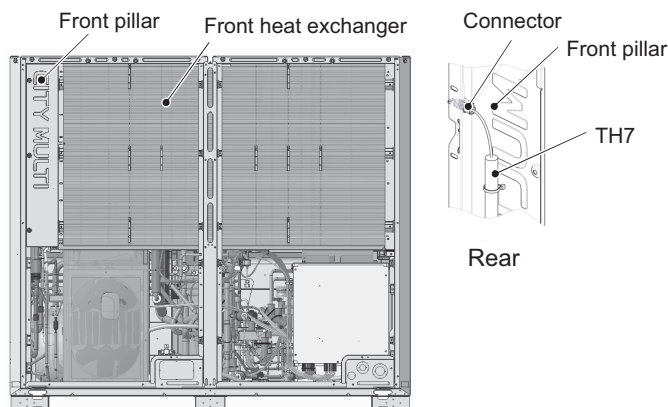

Figure 14
Removal of the front heat exchanger on a standard model (Figure 14)
- (12) Remove the front pillar by unscrewing the 7 screws. (See Figure 14.)
(13) Disconnect the TH7 sensor holder from the front pillar. (See Figure 14 Rear.)